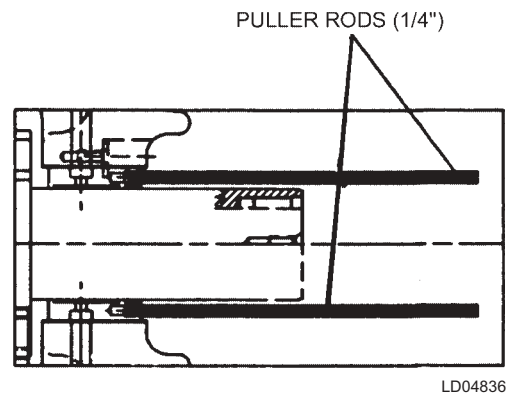

FIG. 35 – FRONT HIGH-SPEED BEARING REMOVAL
REMOVING FRONT HIGH-SPEED BEARING (SEE FIG. 35)
2. Using (2) 1/4" puller rods as shown in FIG. 35, pull the high-speed bearing out of the bearing housing.